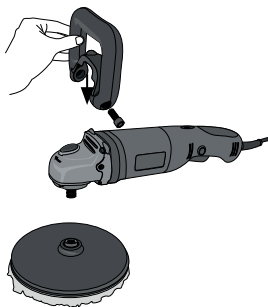

figure 1
- Apply the grip with the two screws and the allen key (figure 1).